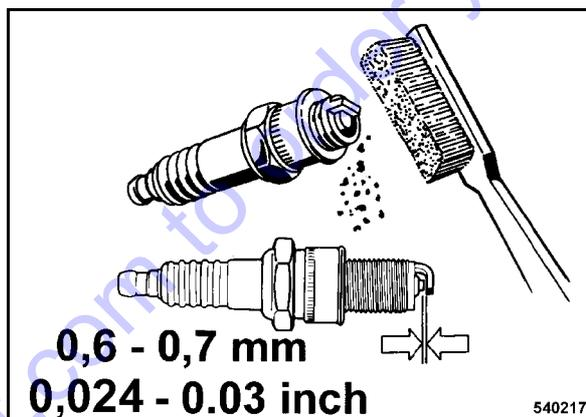

Fig. 43
- Unscrew the spark plug, check the spark plug visually and clean it if necessary (Fig. 43).